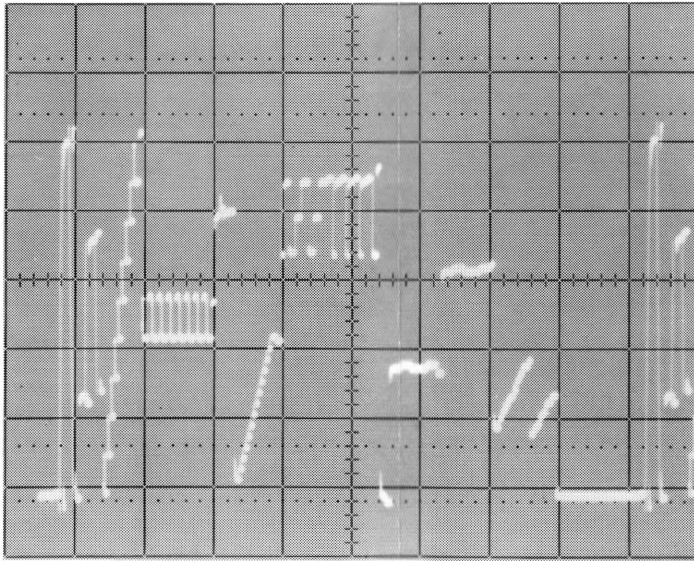

Figure 5-12. X-Amplifier Auxiliary Output
- b. Connect oscilloscope to A1J5 Pin 2 and check for a display as shown in figure 5-12.